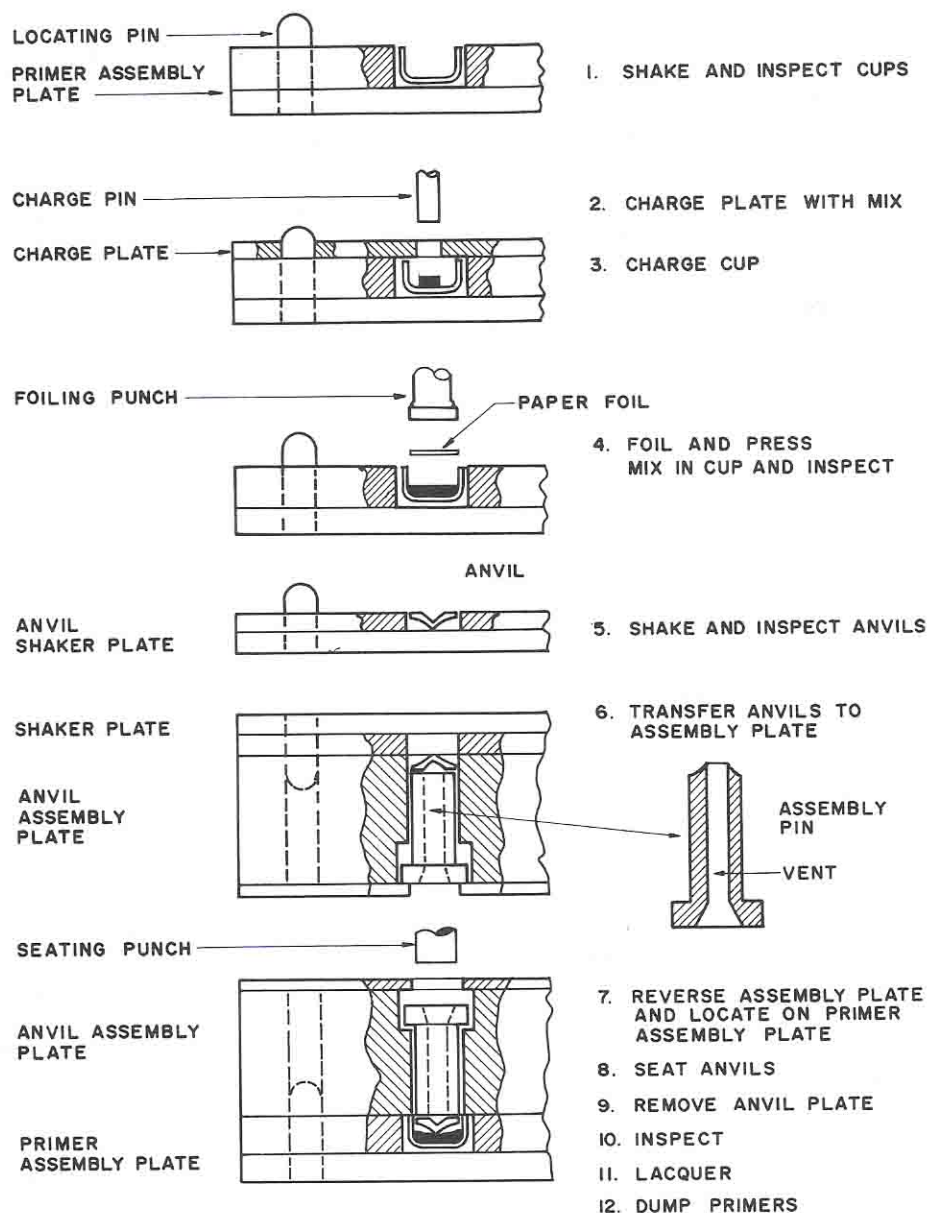

Figure 46: Primer Loading Steps
10. After removal from the lacquer unit, the plate of loaded primers is carefully inspected for missing, tipped, or deformed anvils. Loose anvils are caught by lightly scraping the primers in the plate. All defective primers are picked out and dropped into water for scrapping. Figure 46 shows the various steps.